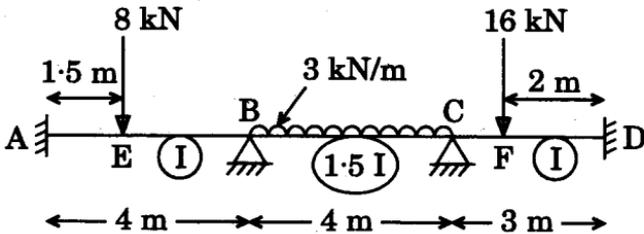

Figure 1
3. Analyse the structure shown in Figure 1 by Moment Distribution method and draw the BMD.